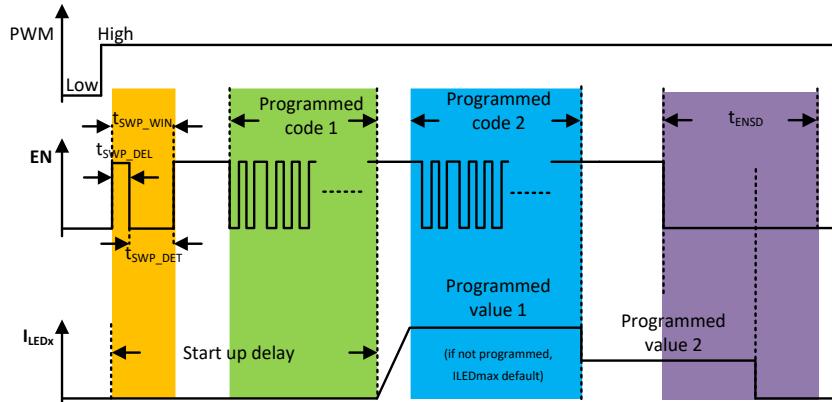

Figure 2. 1-wire Digital Dimming
step 3 must be finished before the 1-wire digital interface detection window (t_{SWP_WIN} , 1ms) expires. Once step 3 is finished, the 1-wire digital interface is enabled and 1-wire digital communication can start. See Figure 2 for the digital dimming pattern timing.